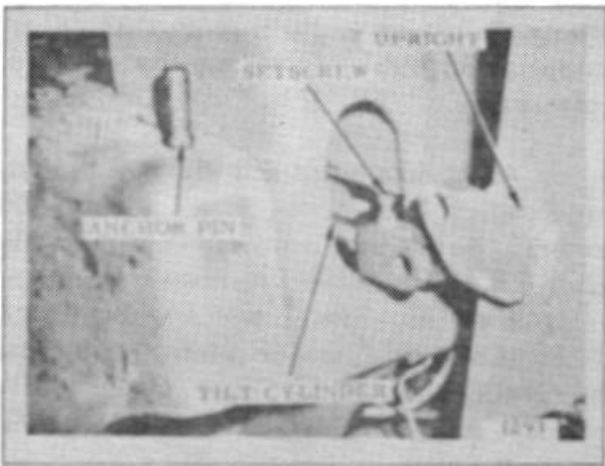

Figure 28.
1. Remove the cotter pin and anchor pin at the upright. (Fig. 28)